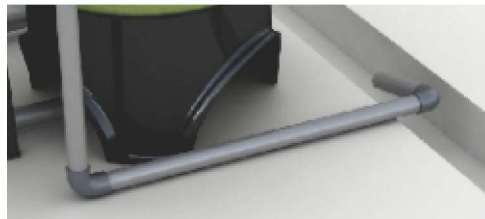

Figure 1-6
⑤ Install drain pipeline
- Glue the drain outlet with UPVC (DN40). Put drain outlet pipe to sewer as showed in the Figure 1-6.